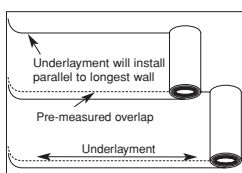

Figure 10
- The floating floor underlayment already has double-sided tape for ease of taping the precut overlapping seams (Figure 10). If a non-adhesive underlayment is used, tape all seams with the included tape.